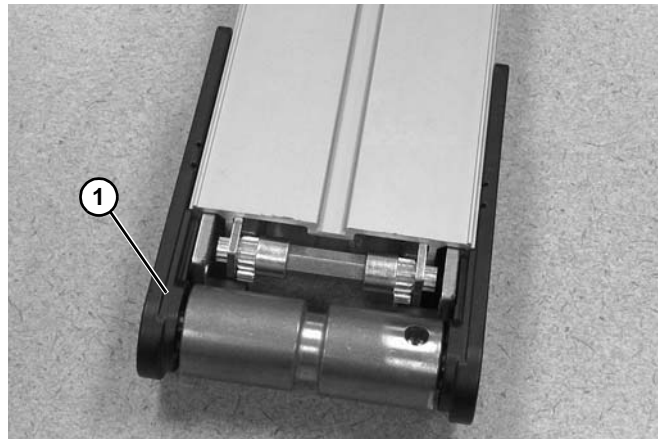

Figure 109
11. Reinstall idler tail by sliding tail assembly (**Figure 109, item 1**) fully back onto conveyor frame.